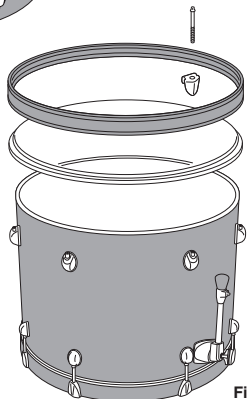

Fig.2
3. Turn the drum over and attach the other head and hoop using the remaining tension rods/hooks (Fig.2).